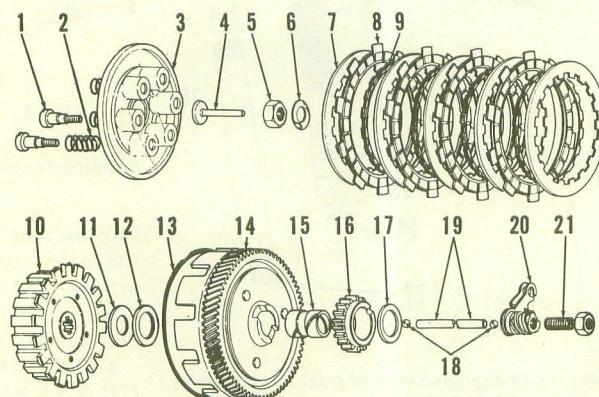

Fig. Y2-16-Exploded view of the clutch assembly. Parts (20 & 21) are located in left cover.
Clutch friction discs (8—Fig. Y2-16) are 4MM (0.158 inch) thick and should be renewed if less than 3.9MM (0.153 in.) thick. Standard free length of clutch springs (2) is 25MM (0.98 in.) for YL-1 and YL-1E; 31.5MM (1.24in.) for HS-1, HS-1B and LS2 models. Clutch springs should be renewed if shorter than standard by 1MM (0.04 in.) or more. Inspect steel clutch plates for